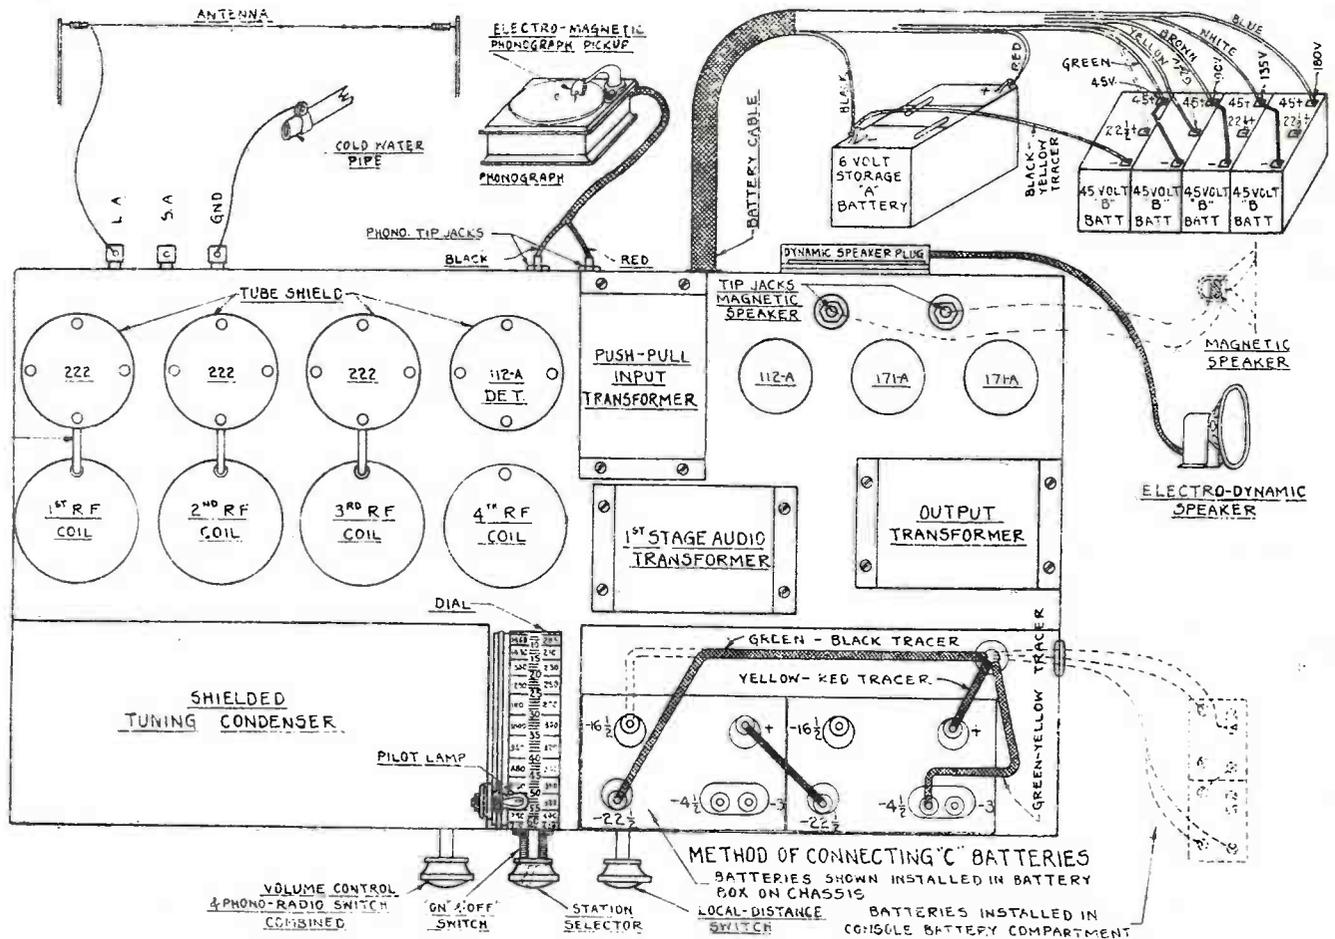

Figure 1
INSERTING THE TUBES: All sockets are plainly marked indicating the tube to be inserted. See Figure 1. The three screen grid (222) and the detector (112-A) tubes are installed in the four shielded sockets at the left rear of the chassis, facing the front of the receiver. The thimble contact attached to the flexible lead is placed over the metal cap at the top of each screen grid tube. This connection must be made before putting the tube shields in place. The other 112-A and the two 171-A tubes are inserted at the right rear. Insert all tubes carefully, in the correct sockets, pressing them down firmly until the base rests on the socket plate.
CONNECTIONS: The aerial and ground are connected to the binding posts at the left rear of the chassis. See Figure 1. These posts are marked L. A. for long antenna, S. A. for short antenna and GRD for ground. An antenna of over thirty feet should be connected to the L. A. post and under thirty feet to the S. A. post.
If the Erla electrodynamic speaker is used the plug connects with the socket at the right rear of the chassis. It can be inserted only in one position, i. e., with the speaker cable projecting toward the right. Special provisions are made to connect a magnetic type speaker. Merely insert the two speaker cord tips into the two tip jacks at rear right hand corner of chassis alongside of power tubes. See Figure 1.